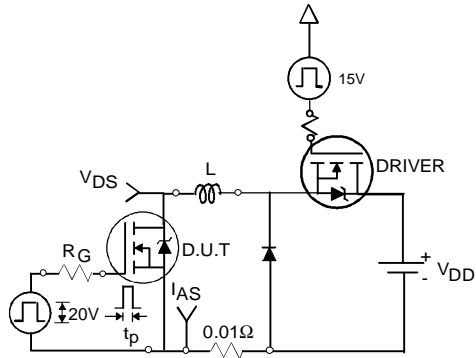

Fig 12a. Unclamped Inductive Test Circuit
3. Equation below based on circuit and waveforms shown in Figures 12a, 12b.
- ④ Pulse width $\leq 400\mu\text{s}$; duty cycle $\leq 2\%$.
- ⑤ C_{oss} eff. is a fixed capacitance that gives the same charging time as C_{oss} while V_{DS} is rising from 0 to 80% V_{DSS} .
- ⑥ Calculated continuous current based on maximum allowable junction temperature. Package limitation current is 75A.
- ⑦ Limited by T_{Jmax} , see Fig.12a, 12b, 15, 16 for typical repetitive avalanche performance.